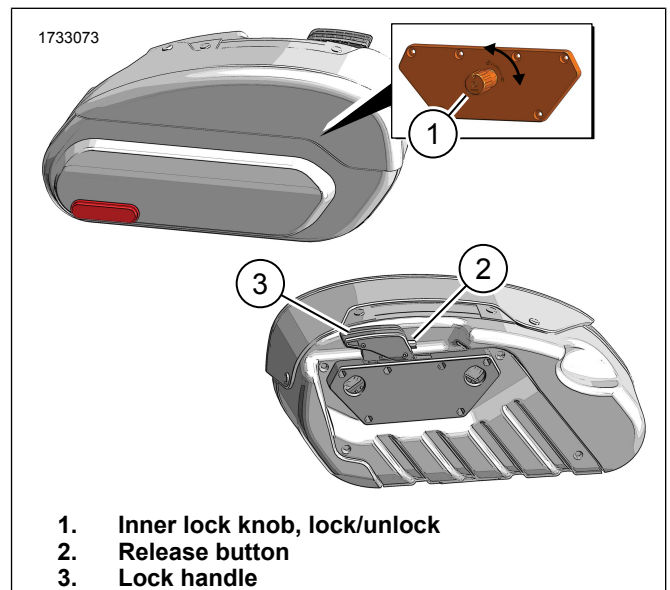

Figure 7. Lock/Unlock/Latch
- a. See Figure 7. Open saddlebag, depress and rotate inner lock knob (1) 90° to unlock position.
- b. See Figure 7. Press release button (2) and lift lock handle (3).
1. See Figure 7. Press release button (2) and lift lock handle (3).
4. Press down on lock handle (3) to secure saddlebag to vehicle.
1. See Figure 7. Press handle button (2) and lift lock handle (3).
1. See Figure 7. Lock saddlebag to vehicle:
- a. Open saddlebag, press and rotate inner lock knob (1) 90° to lock position.
2. See Figure 7. Unlock saddlebag to vehicle:
- a. Open saddlebag, depress and rotate inner lock knob (1) 90° to unlock position.